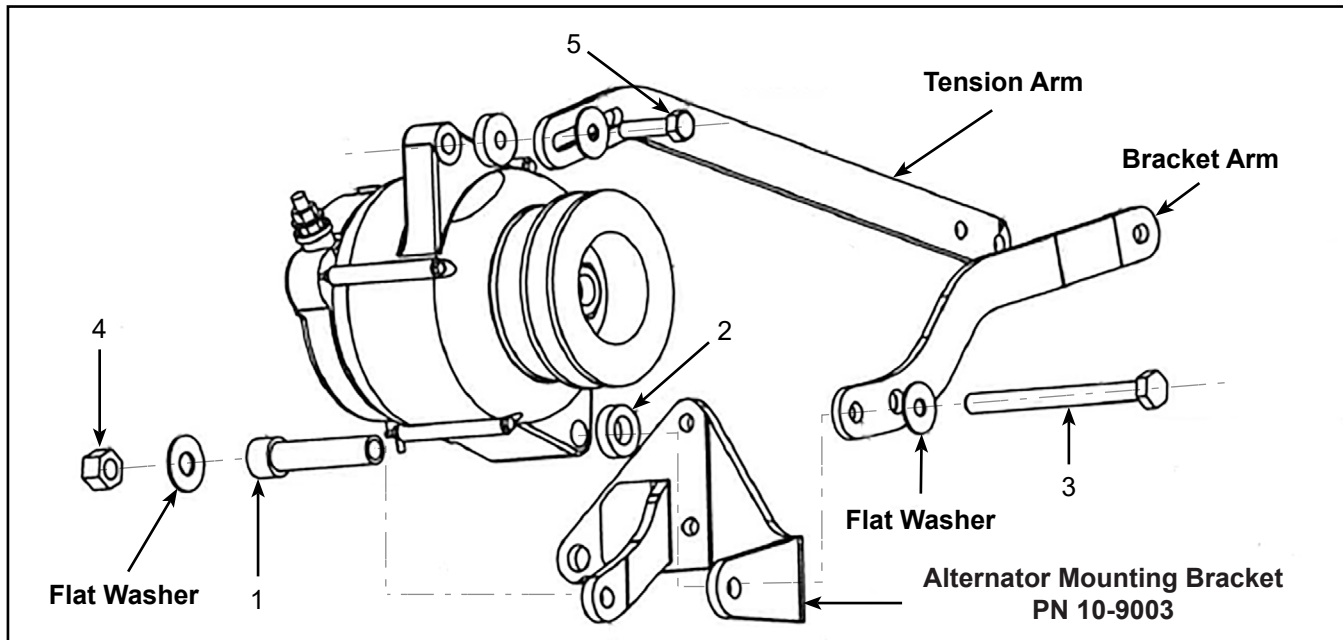

Figure 2 - Alternator and Alternator Mounting Bracket Assembly
2) If the alternator mounting bracket is **not** cracked, see Fig. 2 for the following:
- a) Loosen the tension-arm bolt (5) holding belt tension.
- b) Loosen the bracket-ear/arm bolt (3).
See Fig. 2 for the following: